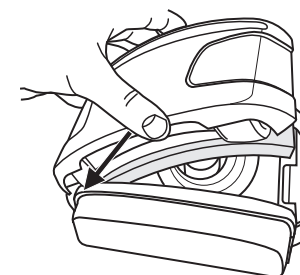

Fig. 7d
4. Install filter as directed, being certain the hinge side of the filter cover is set in the motor/blower prior to latching (Fig. 7d).